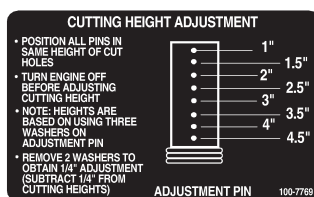

Figure 34
12. Select hole in height-of-cut post corresponding to the height-of-cut desired. Lift on side and front to align holes and hairpin cotter (Fig. 34).